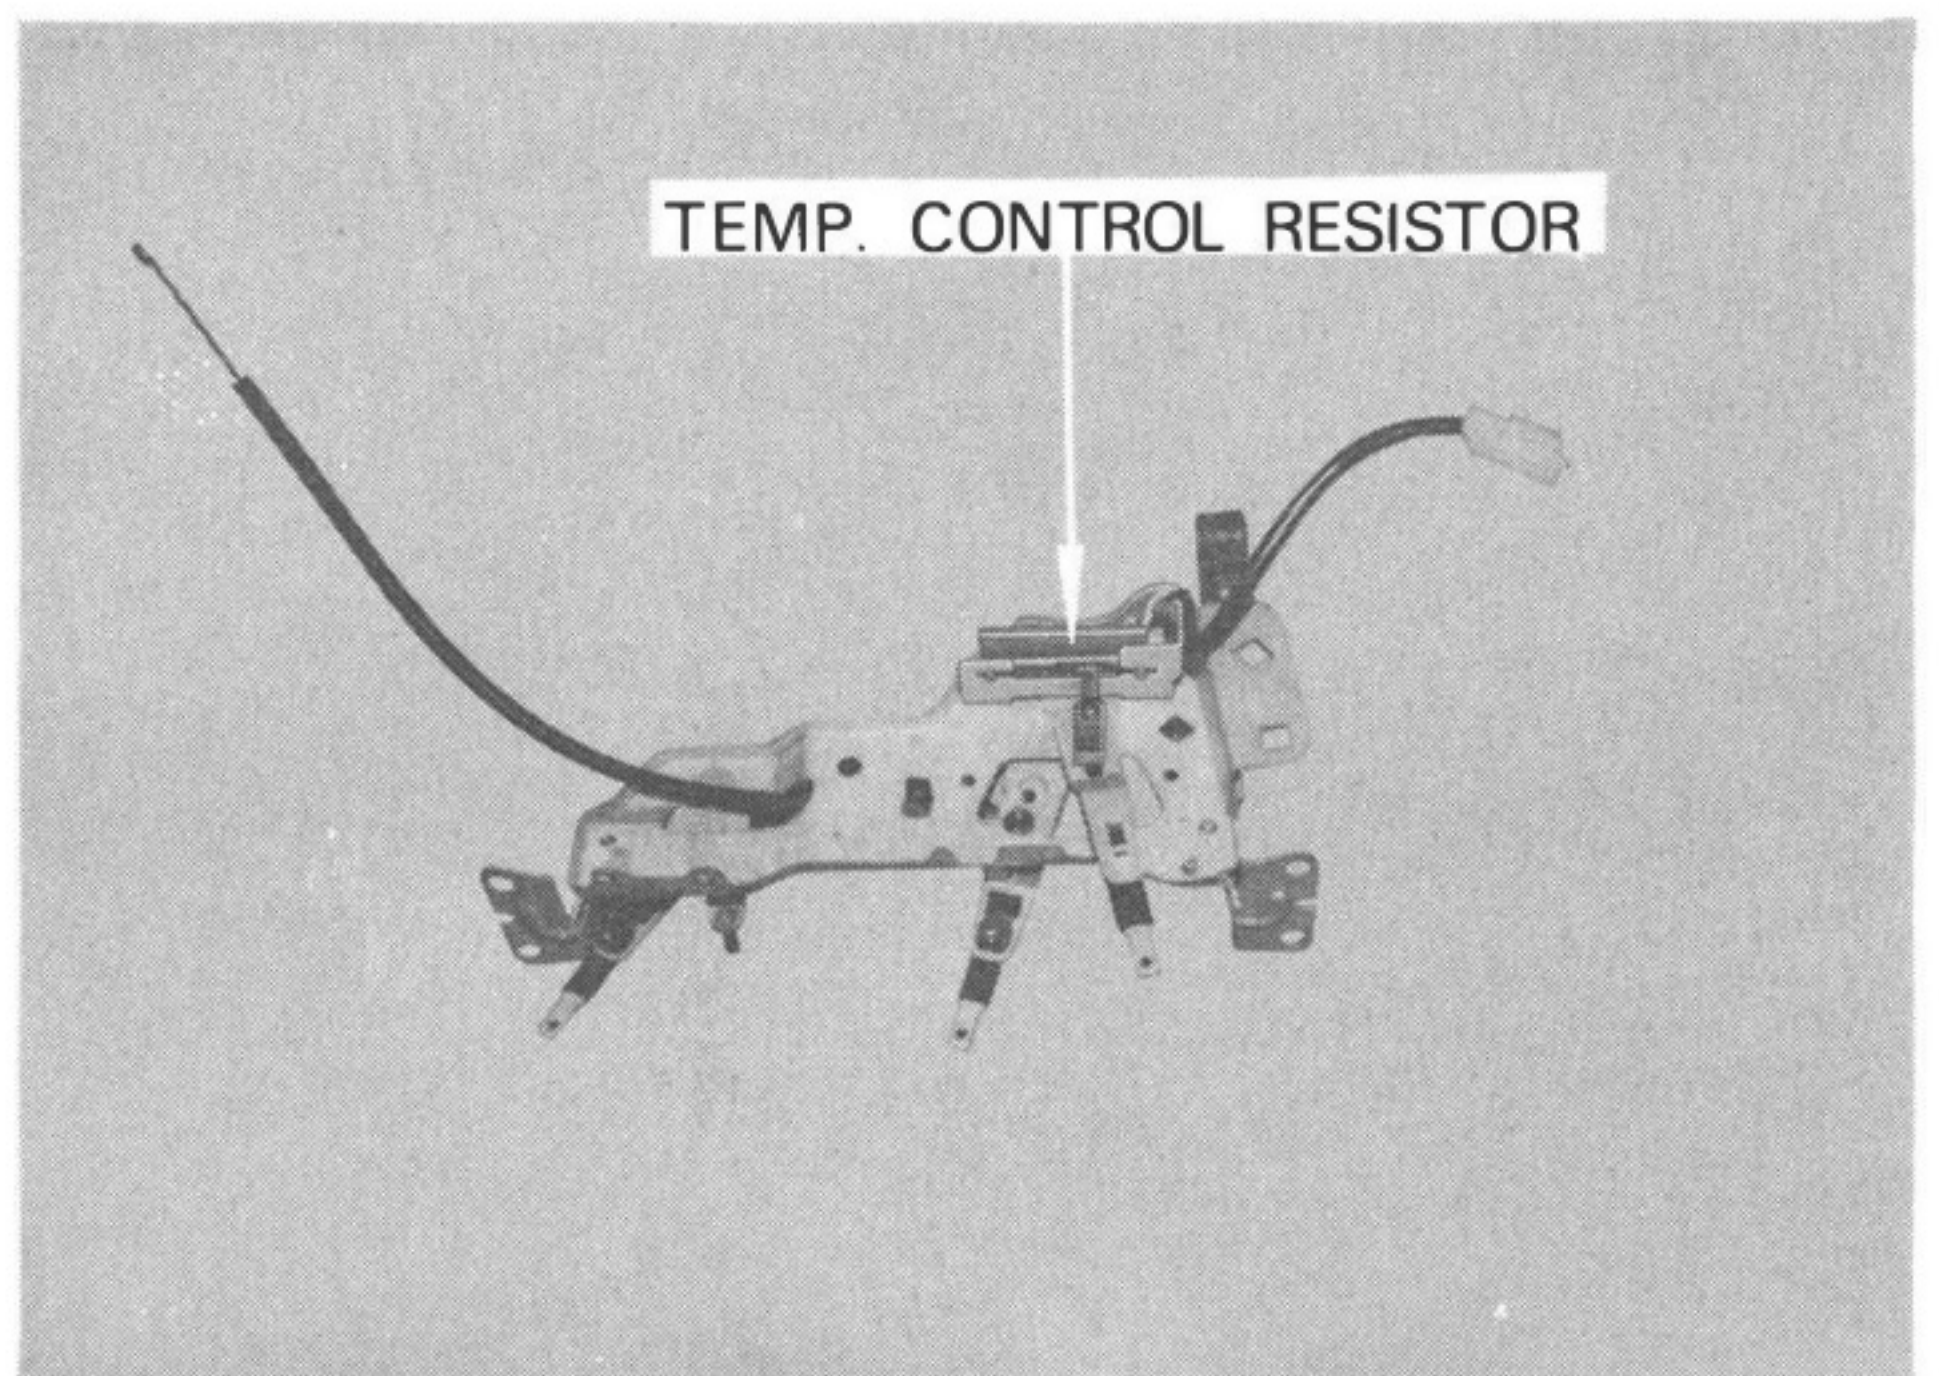
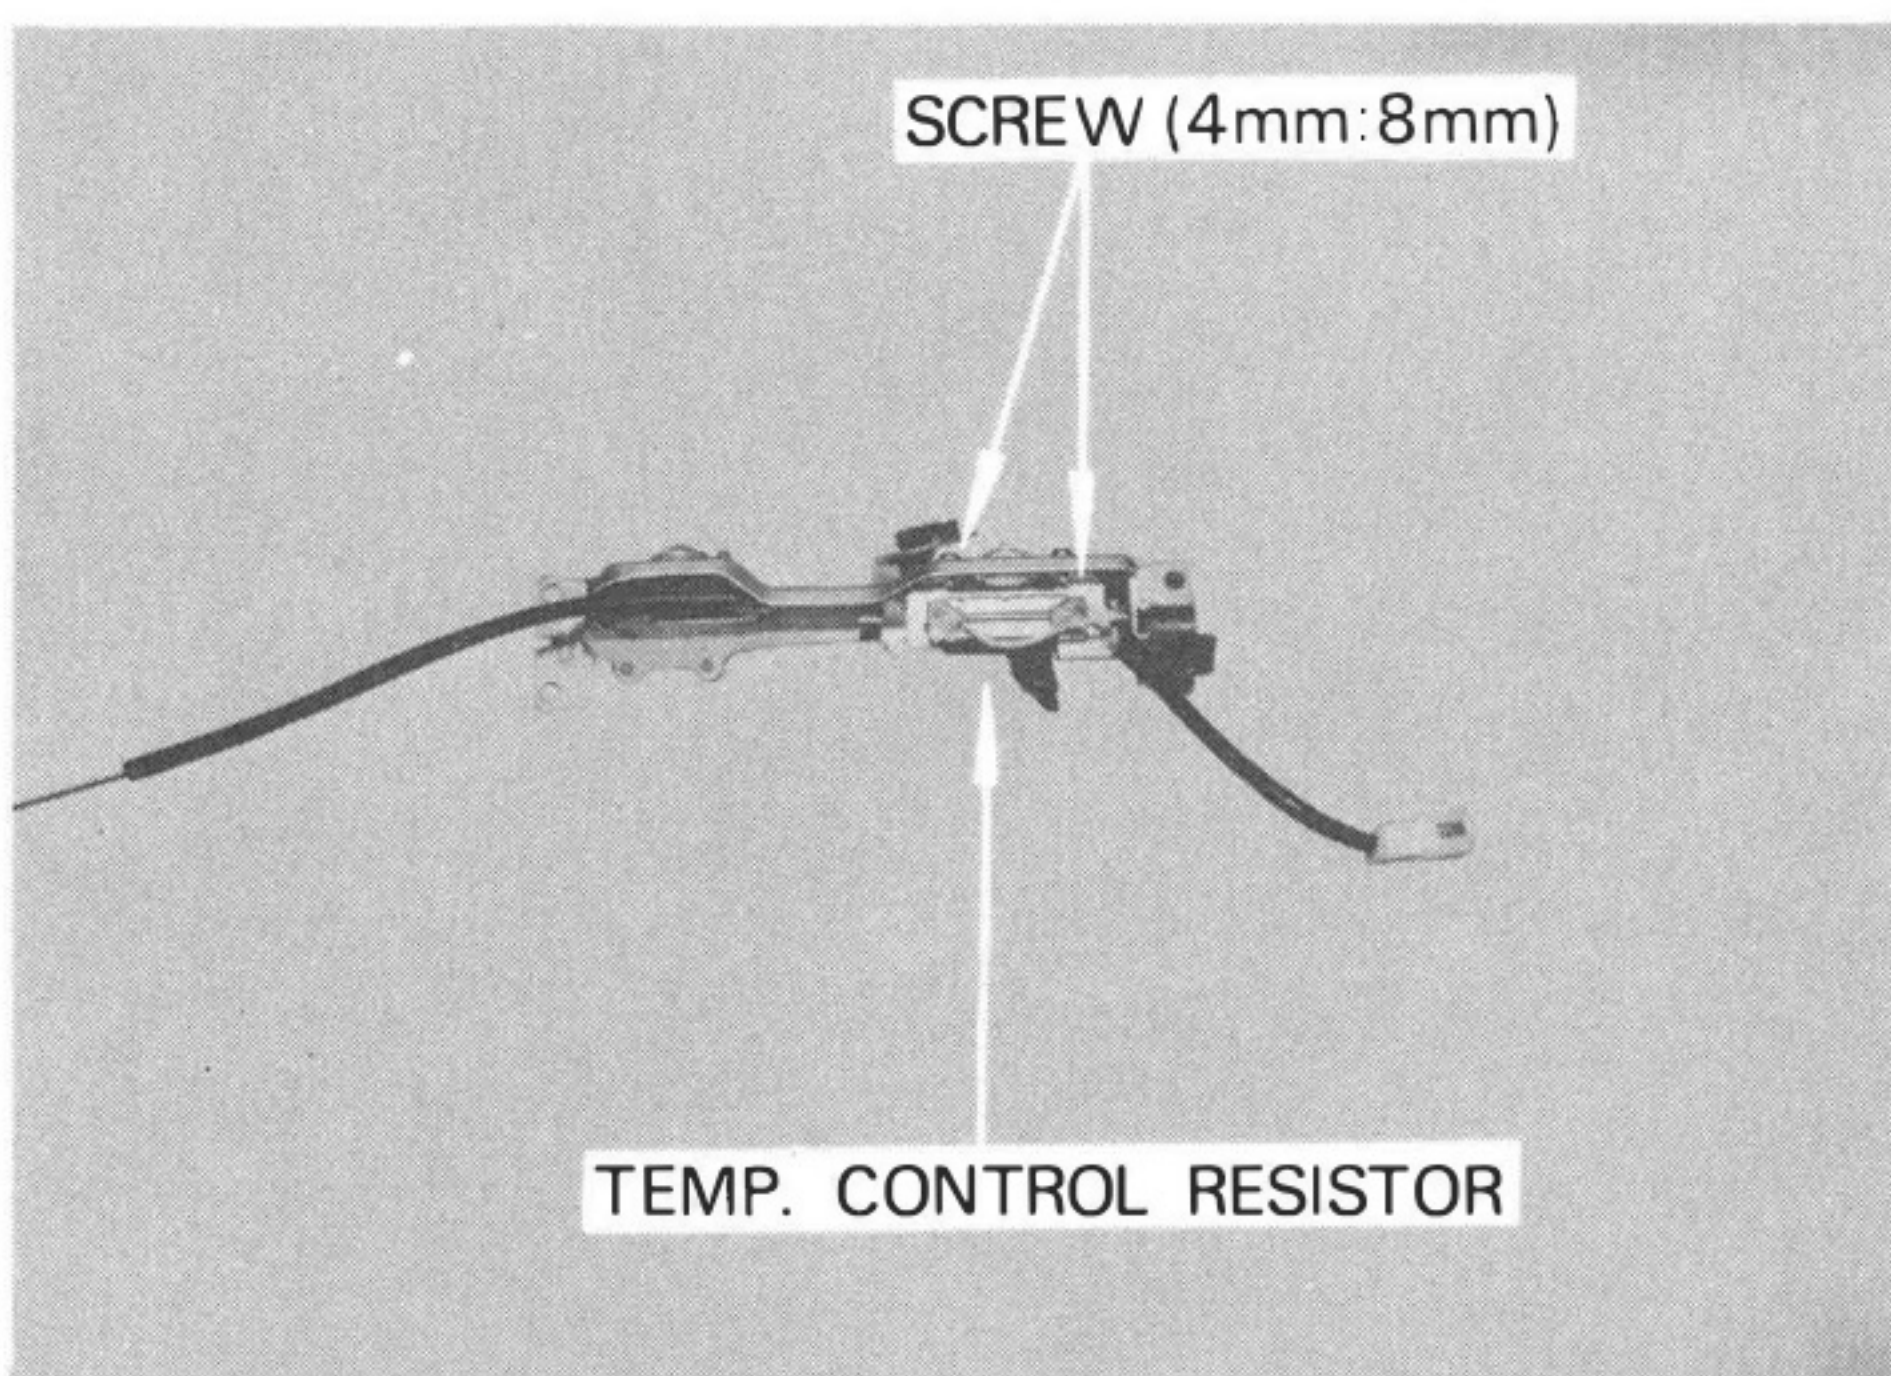

Fig. 1-13
Fig. 1-14
- C) Install the temp. control resistor on the control panel using two screw. See Fig. 1-13 & Fig. 1-14.